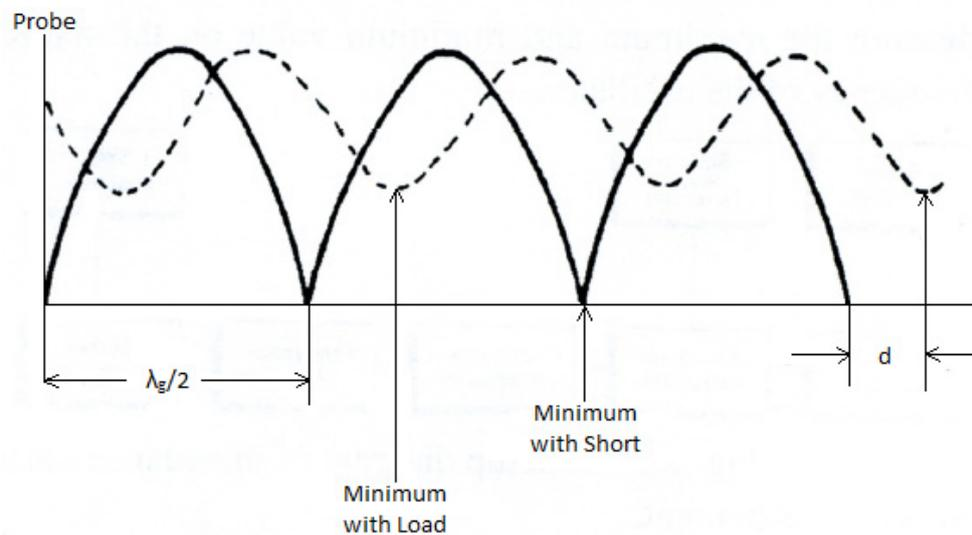

Figure 4.6.3. Fundamentals of impedance measurement.
- c. Choose one of the minimum points as a reference (see Fig. 4.6.3).